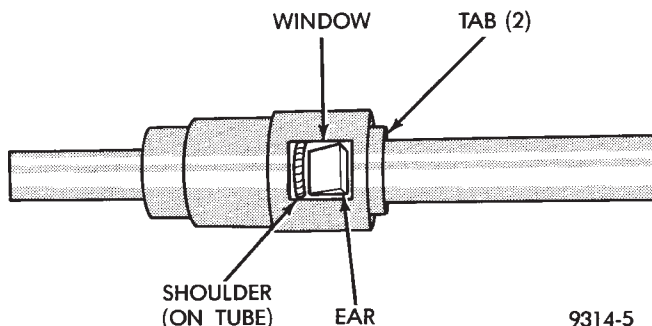

Fig. 11 Plastic Quick-Connect Fitting/Fuel Tube Connection
- (1) Using a clean lint free cloth, clean the fuel tube nipple and retainer.
- (2) Prior to connecting the fitting to the fuel tube, coat the fuel tube nipple with clean 30 weight engine oil.
- (3) Push the quick-connect fitting over the fuel tube until the **retainer seats and a click is heard.**
(4) The plastic quick-connect fitting has windows in the sides of the casing. When the fitting completely attaches to the fuel tube, the retainer locking ears and the fuel tube shoulder are visible in the windows. If they are not visible, the retainer was not properly installed (Fig. 11). **Do not rely upon the audible click to confirm a secure connection.**